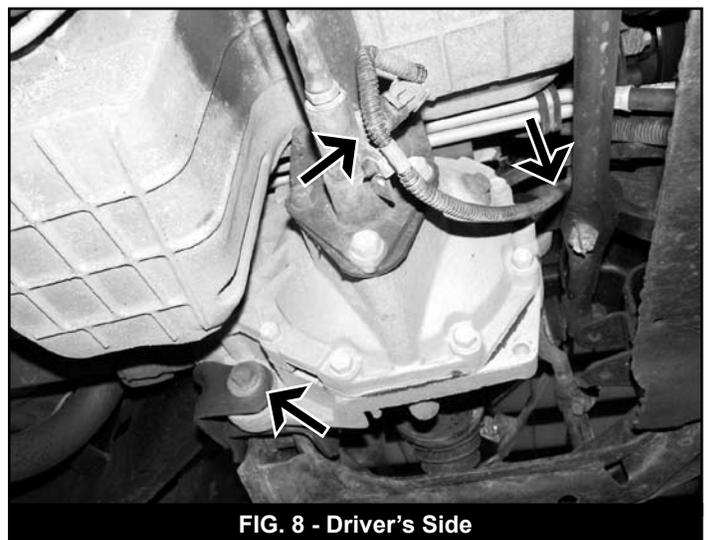

FIG. 8 - Driver's Side
31. Support the differential with a floor jack. Disconnect the electrical connector and wire clip from the center of the differential (Fig 8). Disconnect the vent hose from the driver's side of the differential. Disconnect the fasteners that attach the differential to the chassis and remove the differential from the vehicle (Fig 8, 9). Note: When lowering the front differential, make sure that the actuator cable (see Fig. 1) does not become entangled.